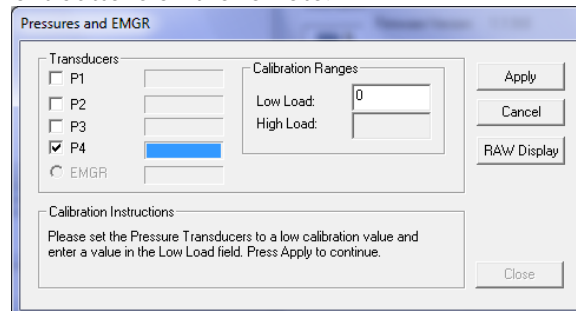

Figure 96: Device Calibration – Pressures and EMGR Window
5. Type 0 into the *Low Load* box and click the **Apply** button (Figure 96).